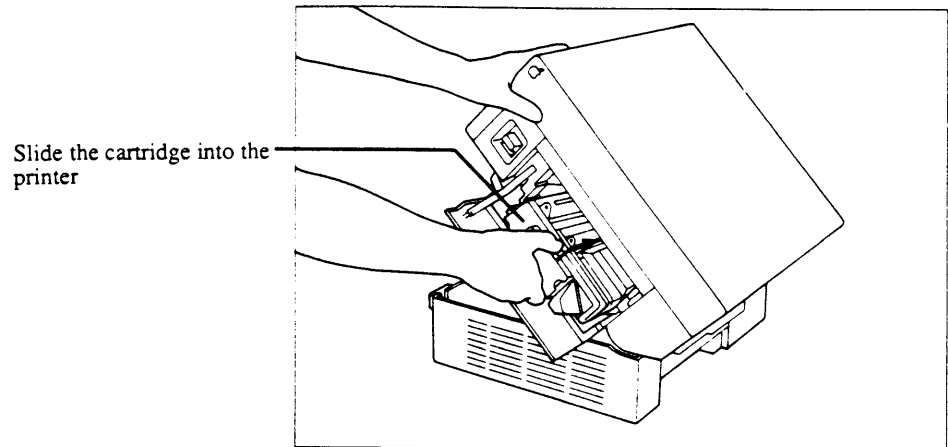

FIGURE 9
1. Fully insert the new toner cartridge into the printer (Figure 9).